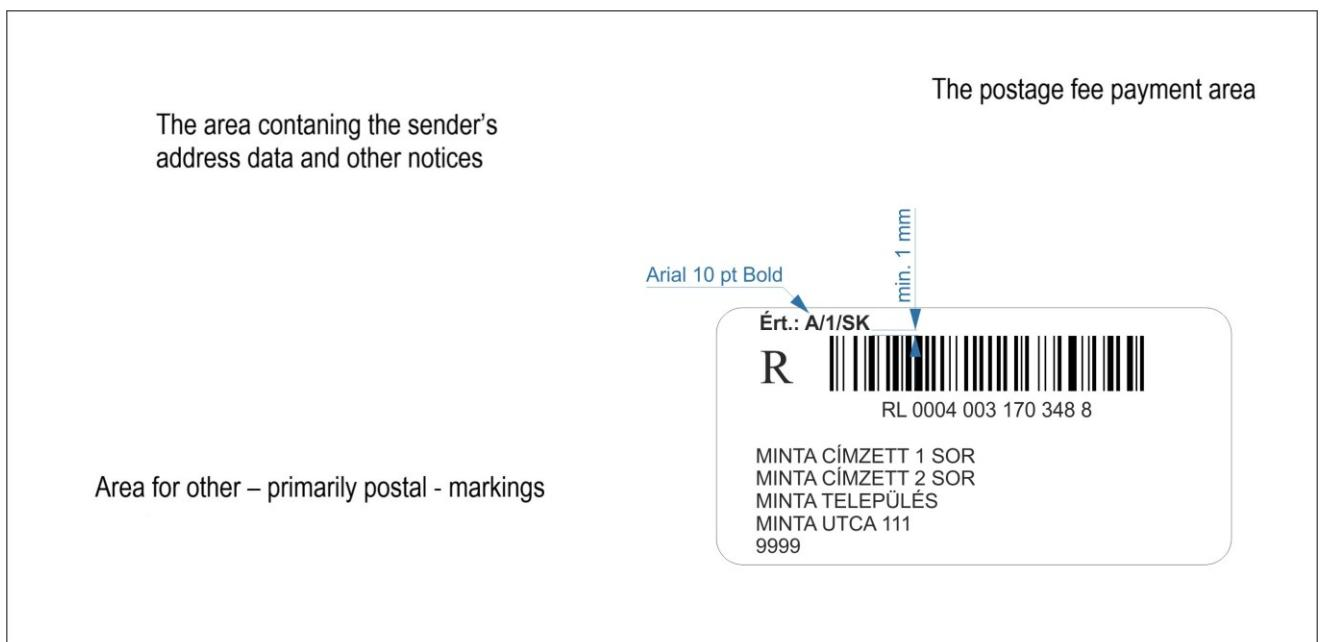

Figure 30: Notification marking for official documents inside the window
- The code "KI", indicating that the use of the delivery confirmation (DC) is requested.
- The return address for the delivery confirmation if it differs from the sender's address (marked as "KI eltérő címe" (DC different address), as in Figure 30).